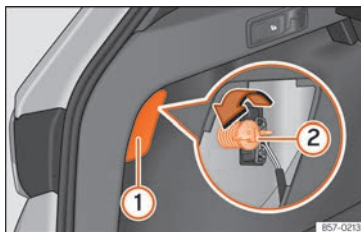

Fig. 114 Boot: access to the bolt securing the tail light unit.
3. Remove the lid, levering it with the flat side of a screwdriver into the recess » **Fig. 114 ①**.
5. Unscrew the light securing bolt by hand or using a screwdriver » **Fig. 114 ②**.